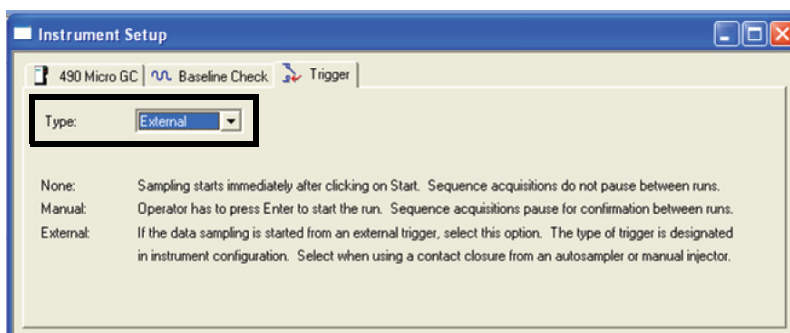

Figure 8 Selecting **External** as the trigger type
- 3 In Instrument Setup, set the trigger type in the **Trigger Tab** to **External**. See Figure 8.